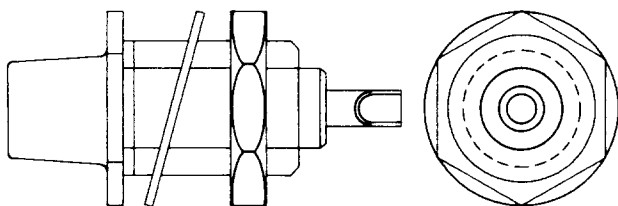

Fig. 10—KS-19894, L1 Connector
2.03 KS-19894, L1: The KS-19894, L1, connector (Fig. 10) is a miniature, 50-ohm, coaxial, slide-on, panel-mounted connector that is furnished with a lockwasher and hex nut for mounting. The KS-19894, L1 is used in TD-3 radios.